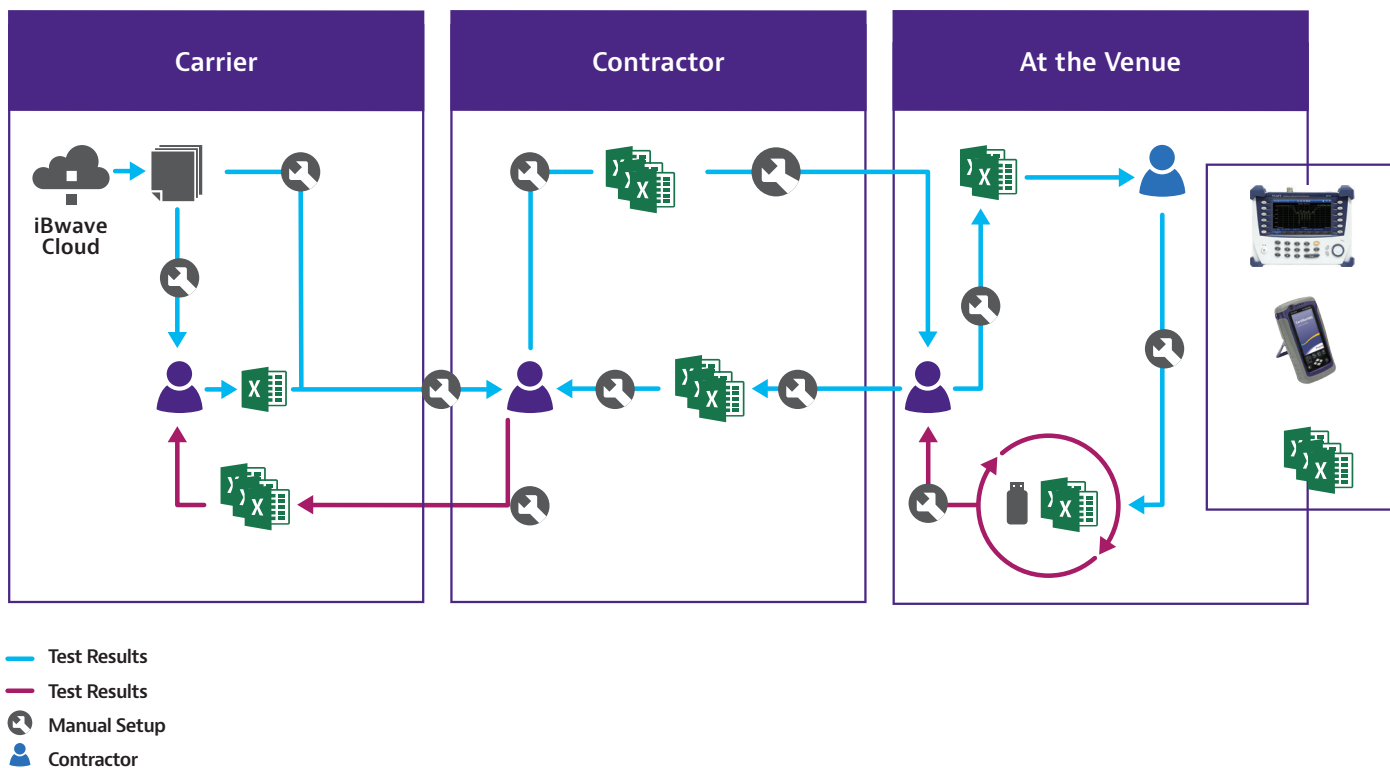

Figure 28. Typical DAS Installation and commission process
- 4. Design package — Scope of Work, Bill of Materials, Link Budgets, and Design Drawings, shown in Figure 28
As Figure 28 shows and as summarized below, the current deployment process can present several challenges.